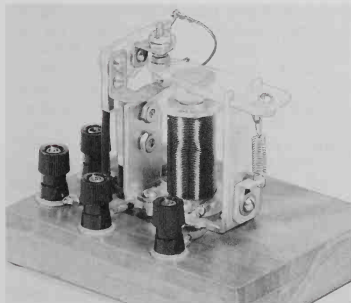
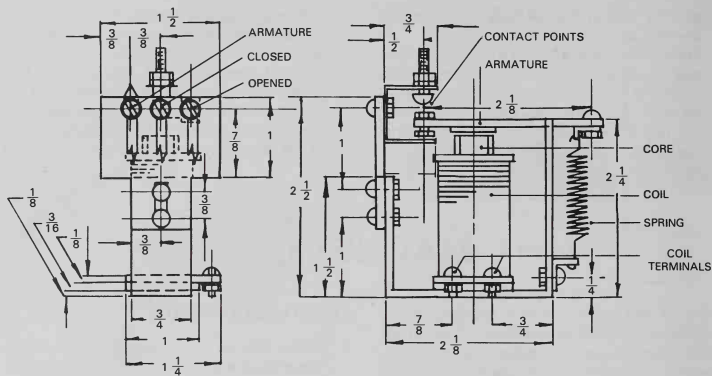

Fig. 18-16. The completed experimental relay.
Fig. 18-17. Suggested dimension of magnetic relay.
1. Relays may be constructed in many ways. The photograph of only one kind appears in Fig. 18-16. Note that it is a single pole double throw switch. The switch contacts are connected to the three binding posts with red, green, and black wires. The relay can be used as a "Normally Closed" relay and will open the circuit when the coil is energized or a "Normally Open" relay which will close the circuit when energized. Which contacts to use will depend on its application. (See Fig. 18-17.)